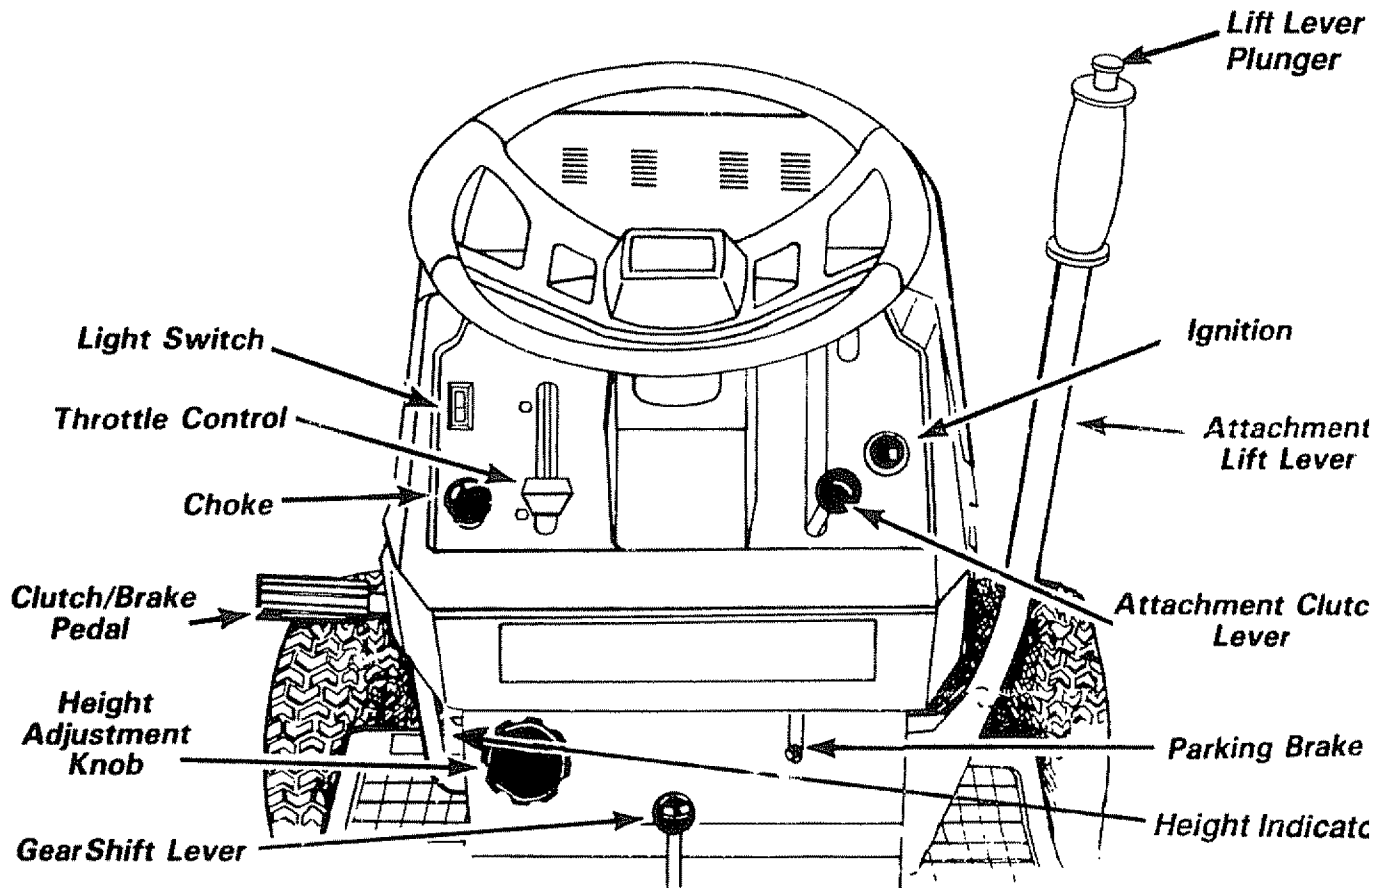

**FIGURE 6**
- f. Using the key hole on one side of the battery support (Fig. 6) slide battery bolt into frame key hole (head of bolt down). Fasten the battery bolt to the terminal guard using wing nut, (shown full size on pg. 6) as shown in Fig. 6.
- g. Assemble the remaining battery bolt to other side of battery support and fasten terminal guard to it with remaining wing nut, (shown full size on pg. 6) as shown in Fig. 6.